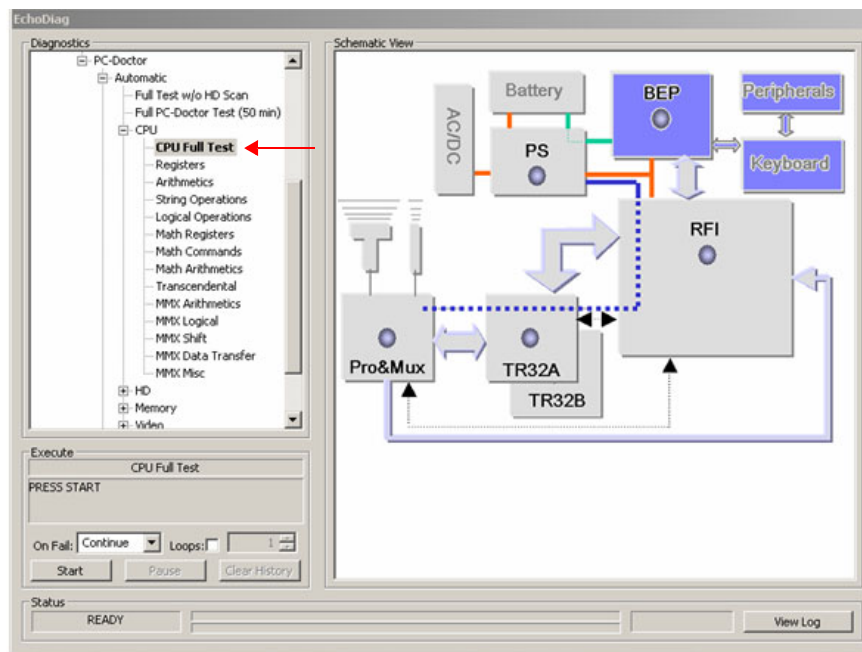

Figure 7-84 CPU Full Test
- 1.) In the *Diagnostic Test* window, trackball to **CPU Full Test** in the list of *CPU* tests available for selection from the Diagnostic Test Tree (see Figure 7-84 below) and press **Set**. The Test name is displayed under *Execute*; the relevant system components to be tested are highlighted light blue in the Schematic View (BEP, Peripherals, Keyboard), as shown below: